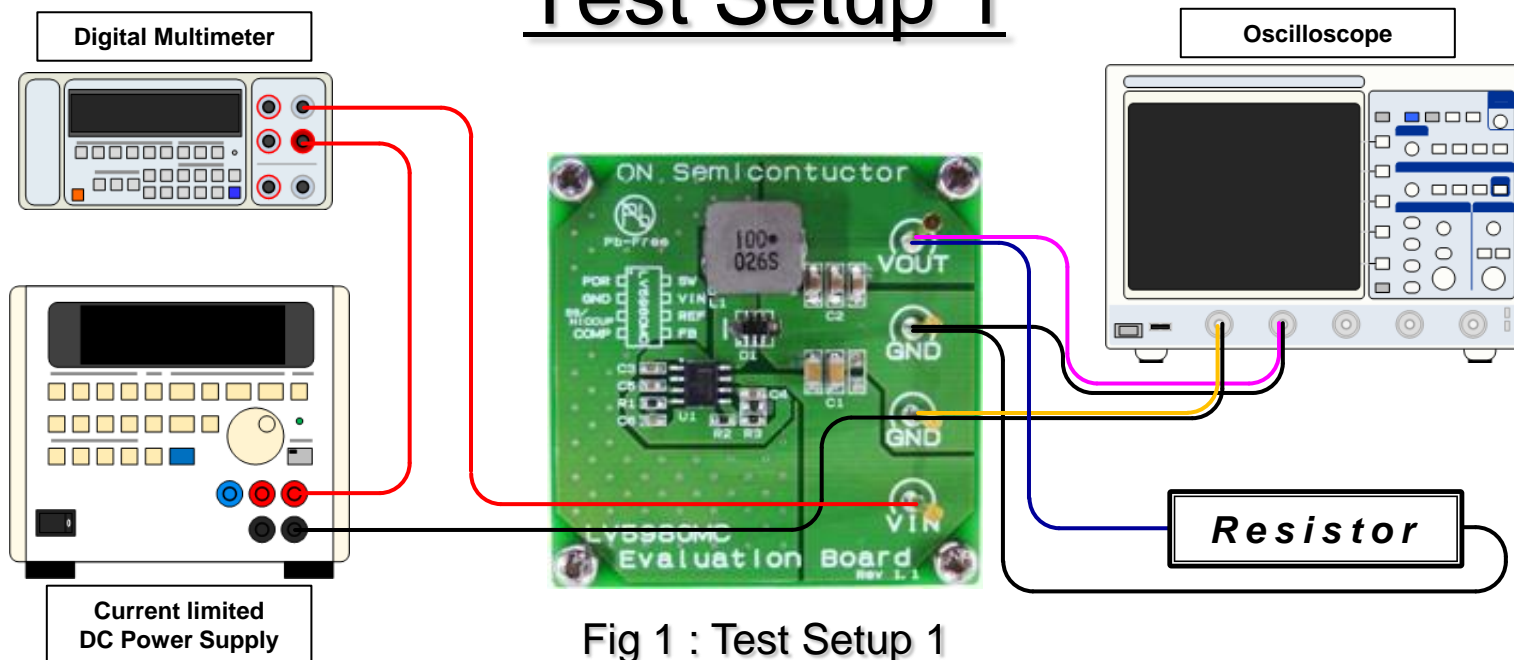

Fig 1 : Test Setup 1
- ❑ The layout is as shown in Figure 1 : Test\_setup1 and supply input voltage ( $V_{IN} = 24V$ ).